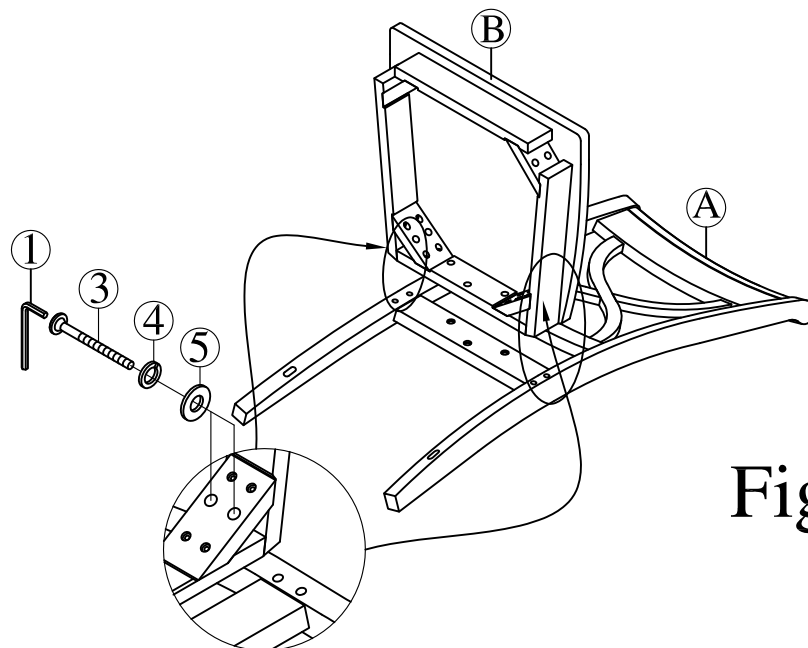

Fig.2
Step 2 : Use Long Bolt (3), Spring Washer (4) Flat Washer (5) and Allen Key (1) to attached the Wooden Seat (B) to Chair Backrest (A) as shown in Fig. 2 .